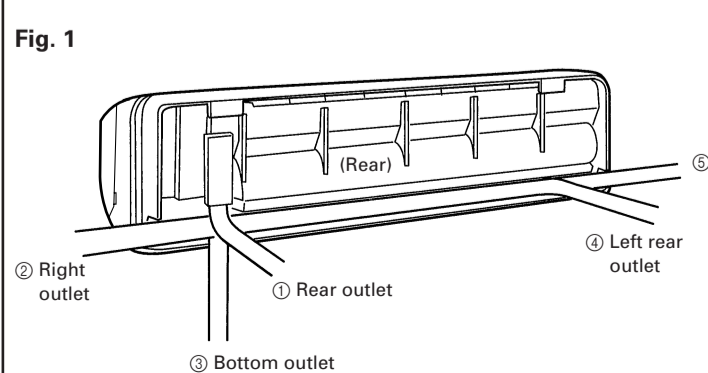

Fig. 1
The piping can be connected in the five directions indicated by ①, ②, ③, ④, and ⑤ in (Fig. 1). When the piping is connected in direction ② or ③, cut along the piping groove in the side of the front cover with a hacksaw.